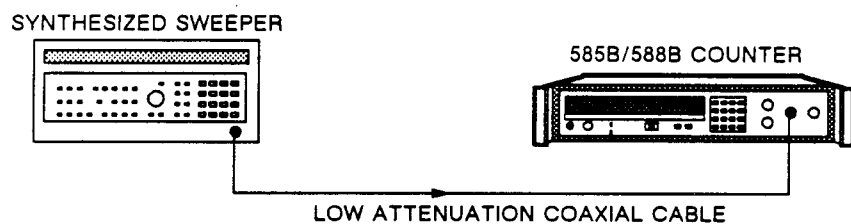

Figure 8-15. Band 2 Center Frequency Test Setup.
1. Connect equipment as shown in Figure 8-15 and turn equipment on.